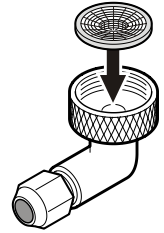

Figure 16
- Insert the water strainer provided into the OD adapter with the cavity downwards (Figure 16).